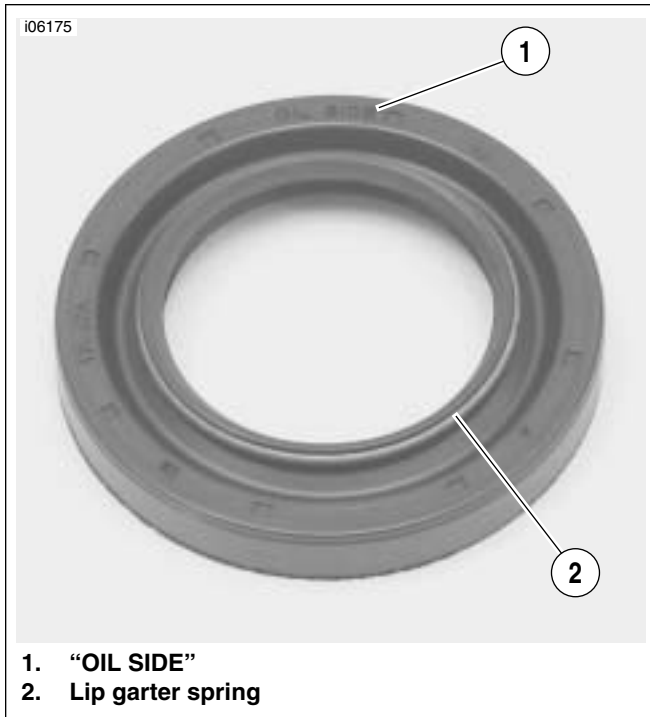

Figure 2. Lip Garter Spring Side of New Oil Seal Identified by the Words "OIL SIDE"
- b. See Figure 2. The lip garter spring side of the new oil seal is also identified by the words "OIL SIDE".